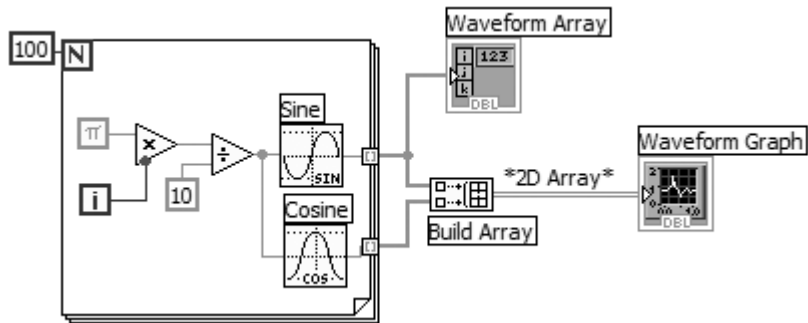

Figure 8.23
10. Create the block diagram shown in **Figure 8.23**.